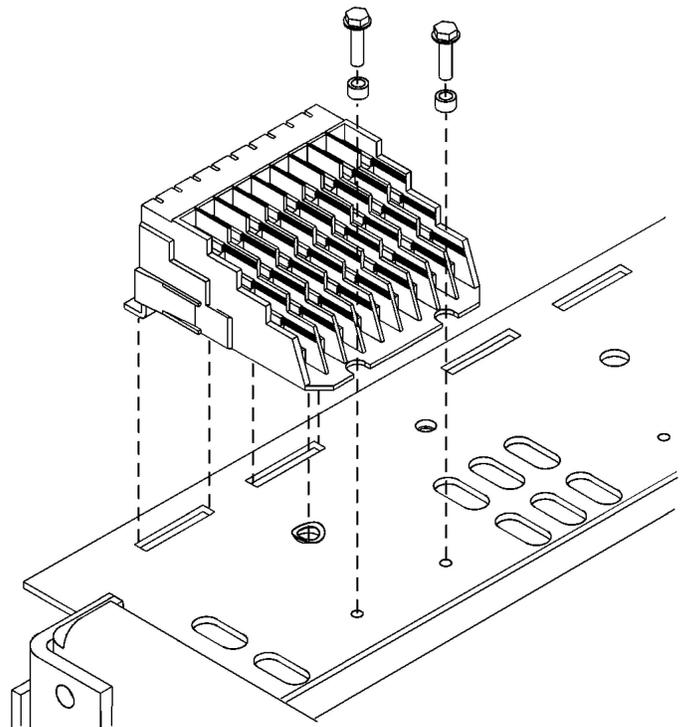

Figure 6. Removing the secondary disconnect.
2. Remove the two screws and standoffs securing the secondary disconnect to the mounting plate, taking care to retain the spring washer from the pin on the underside of the disconnect, as shown in Figure 6. Cut the wire ties securing the secondary disconnect leads to the mounting plate and to the breaker back frame. Slide the secondary disconnect off the support bracket. Secure the secondary disconnect to the front frame assembly.
17. Place the flexible washer on the molded pin on bottom of the secondary disconnect, then slide the two feet into the slots on the mounting plate. Secure with the two screws and standoffs, as illustrated in Figure 6. Replace the wire bundle into the channel on the top of the frame and secure with wire ties.